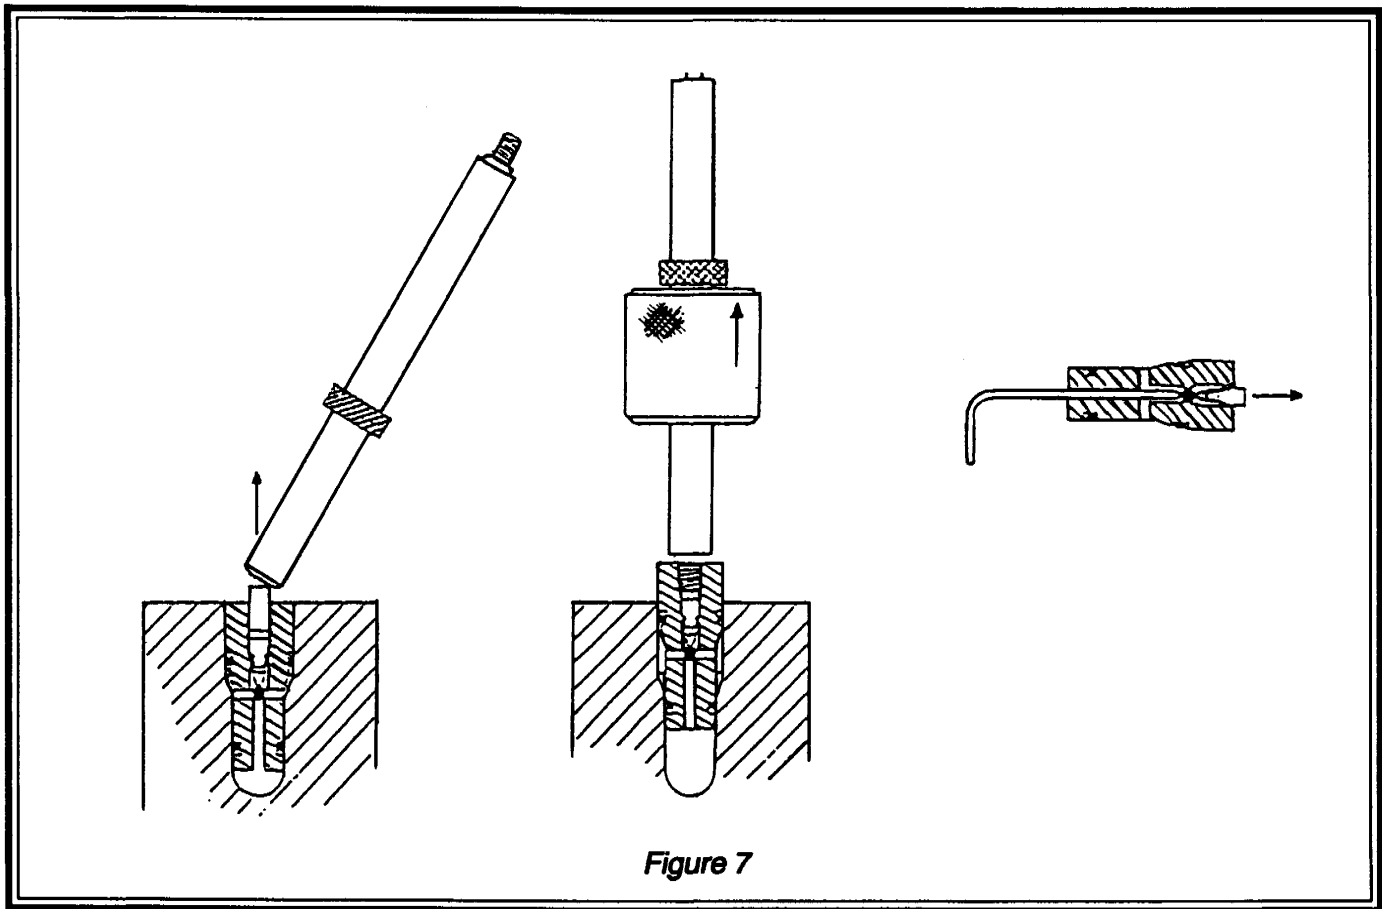

Figure 7
See Drawings D-19538, D-19593 and Figure 7. A discharge valve assembly consists of a one-piece top plug and valve seat (3) with O-ring, self-energizing seals. Both O-rings (8 & 4) must contain full pressure in one direction, so they are backed by a tough back-up ring (9 & 5) to reduce extrusion. The discharge valve (6) is a hard, smooth, round, ceramic ball. A bullet-shaped stop (7) is located above the valve and is held in position by a spacer (10) to limit the lift of the ball. The stop is fitted with an O-ring (19) and back-up ring (20) to contain full pressure. The three valve assemblies are held in place by a single, flat plate and fastened by eight socket-head cap screws (11) for maximum preload and safety.
4. Place the threaded end of the pulling tool through the slide hammer and thread it into the top plug. See Figure 7. Rap the slide hammer gently to pull the top plug assembly.
5. Unscrew pulling tool and, using the 1/8" (approximately 3.17 mm) hex key of the Allen Jackey set (T7), push the ball valve (6) and discharge valve stop (7) out of the plug (3).